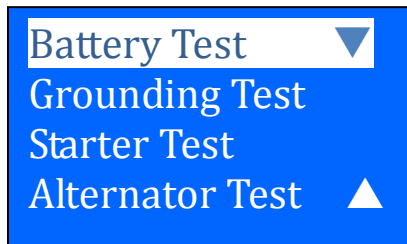

Figure 42
3. After you have made your choice, selecting either “New: Clear Memory” or “Continue...Test” will proceed to the display below: (Fig. 42)